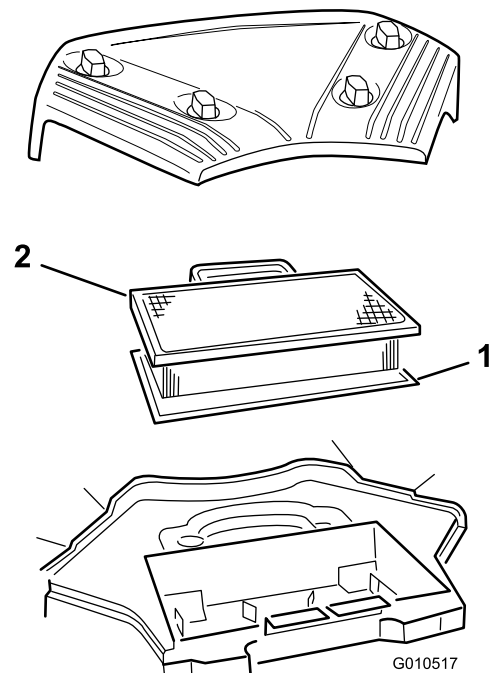

Figure 22
1. Knob (4)
3. Lift out the paper cartridge and the foam element. (Figure 22)